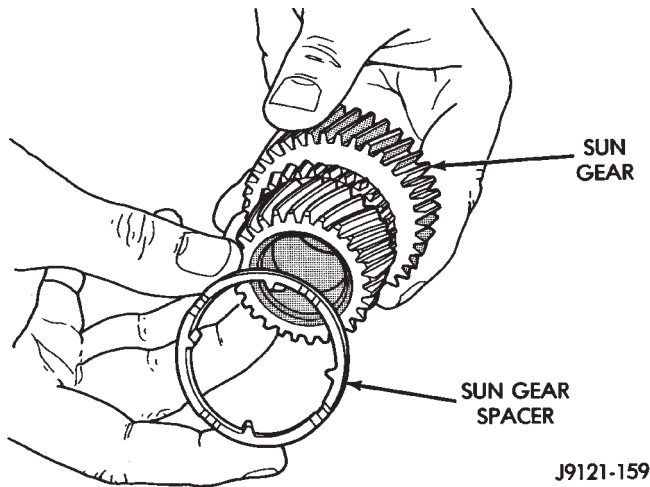

Fig. 73 Installing Sun Gear Spacer
(7) Install spacer on sun gear (Fig. 73).